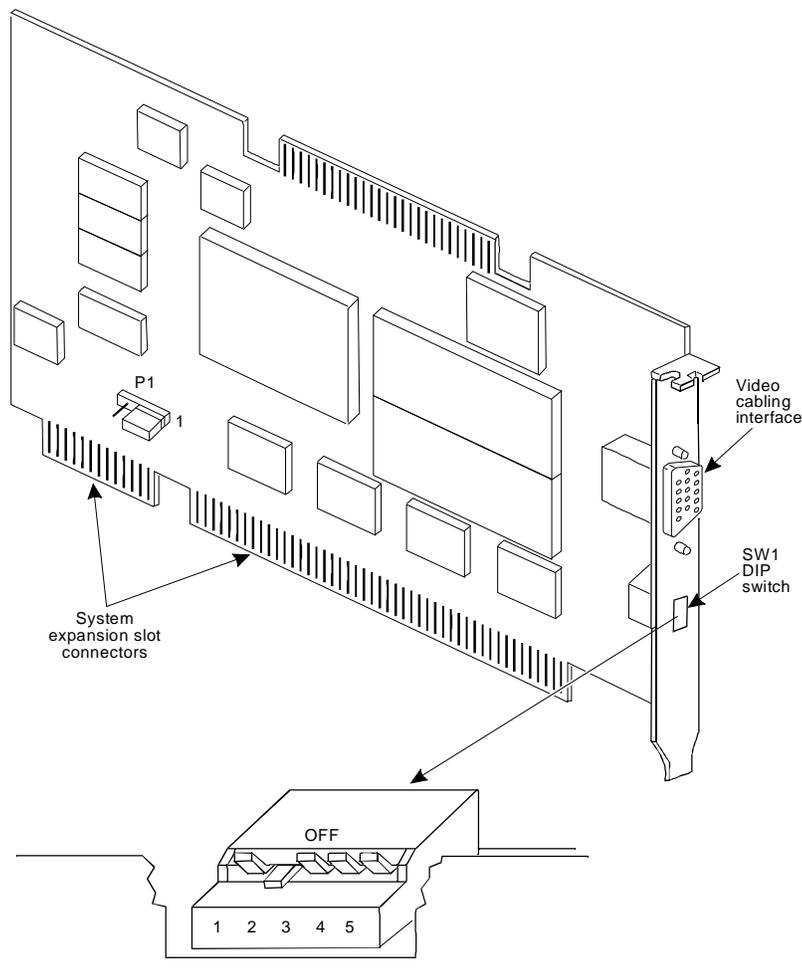

Figure 9-13. Video Controller Card with Switch Settings - Version 3
3. Set the dip switches on the card faceplate (Figure 9-13). Use the point of a pen or a similar instrument to set the switches. Do not use a lead pencil. The graphite can damage the card.
4. Set the jumpers as shown in Figure 9-13.